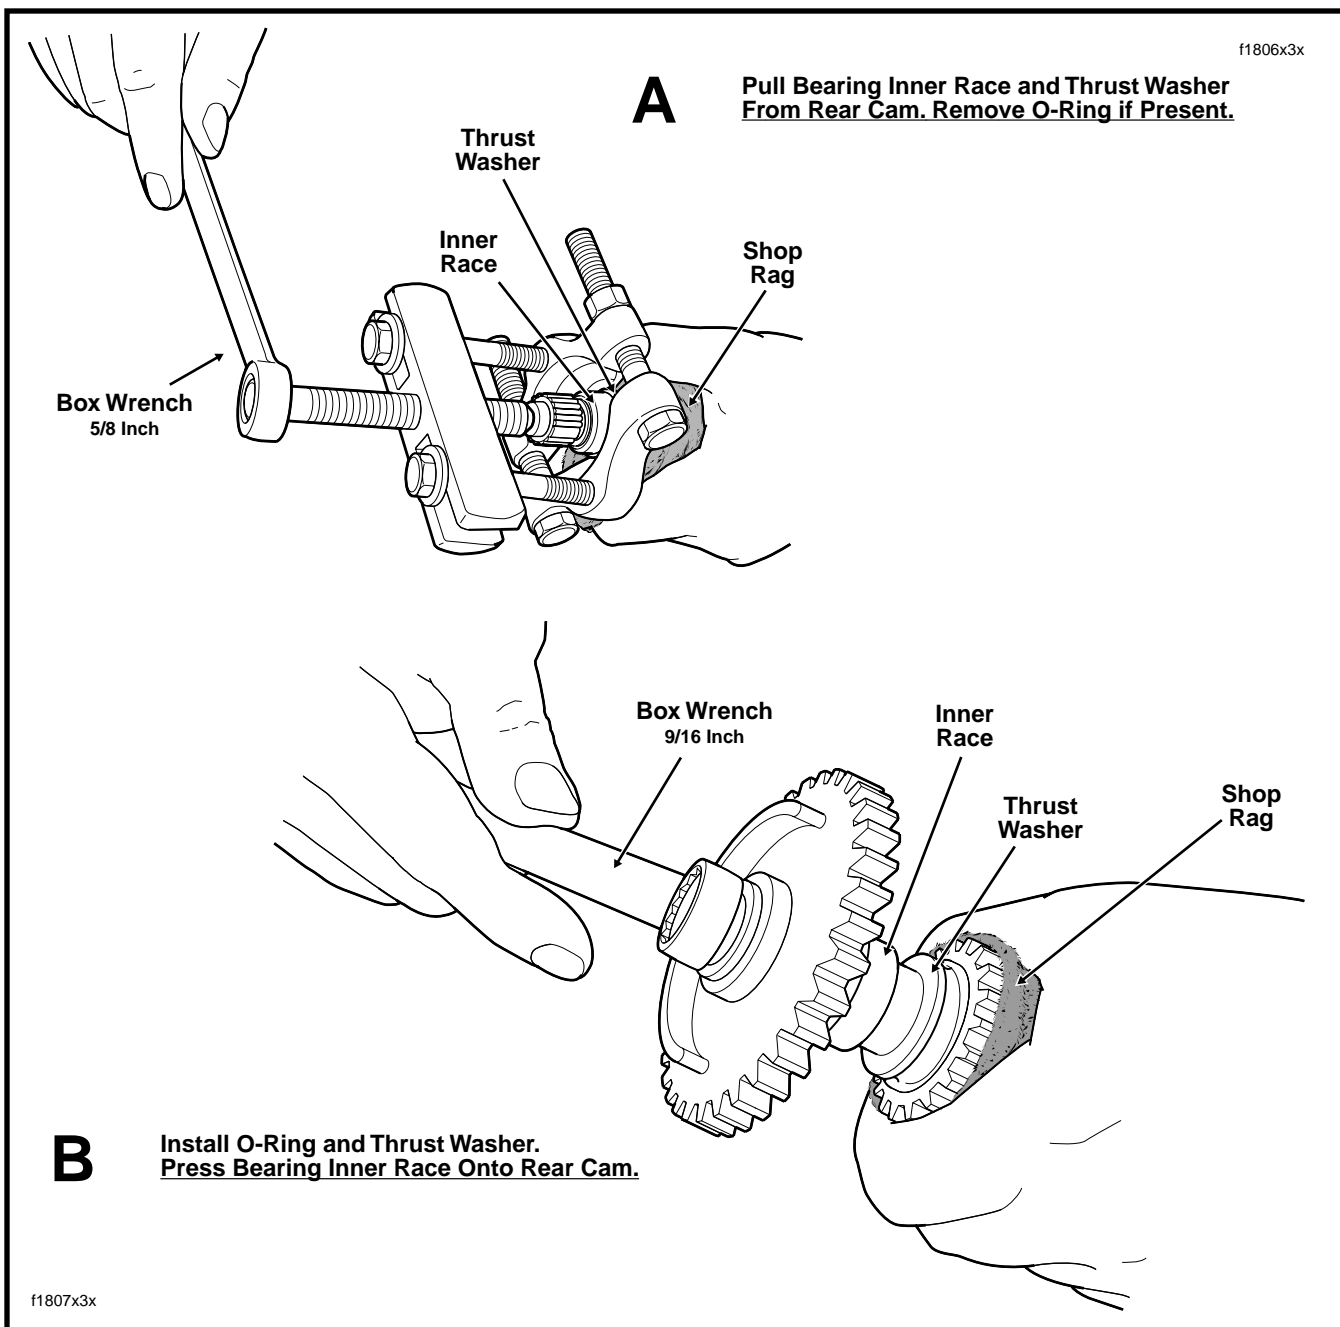

Figure 2. Remove/Install Bearing Inner Race (With O-Ring and Thrust Washer)
- g. Using a 5/8 inch box wrench, turn forcing screw until bearing inner race and thrust washer are pulled free of camshaft. See A of Figure 2. A light interference fit allows the parts to be removed with little effort. Discard inner race and thrust washer.
- e. Wrap a shop rag around camshaft to get a firm grip and also to protect hand from sharp edges of sprocket. Using a 9/16 inch box wrench, turn flange bolt in a clockwise direction. Bearing inner race is fully installed when it makes firm contact with the thrust washer. See B of Figure 2.